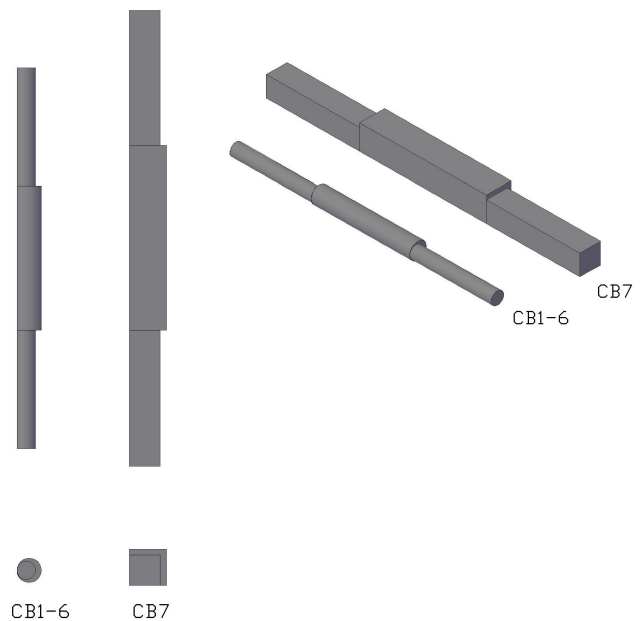

Fig. 31: CB welding
**Step 1** Weld the three pieces for each Crossbar together, ensuring that **ONE EDGE IS FLUSH**. See Fig.31.